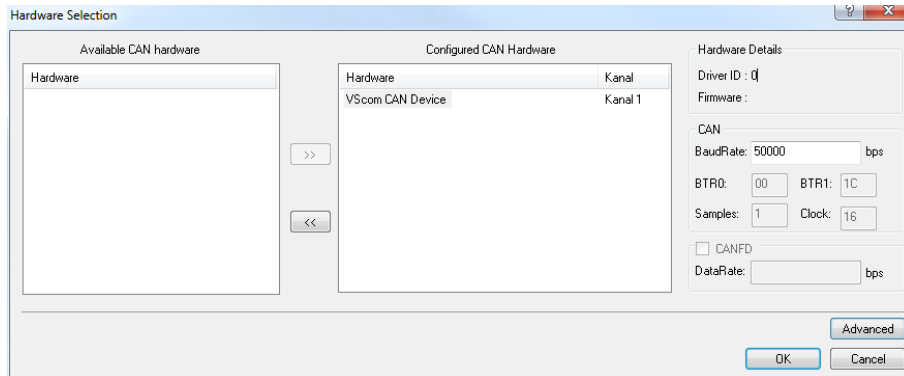

Figure 22: BUSMASTER: Select Hardware Interface
3. In the „Hardware Selection” dialog move „VScom CAN Device” from „Available CAN Hardware” to „Configured CAN Hardware” (see Figure 22)